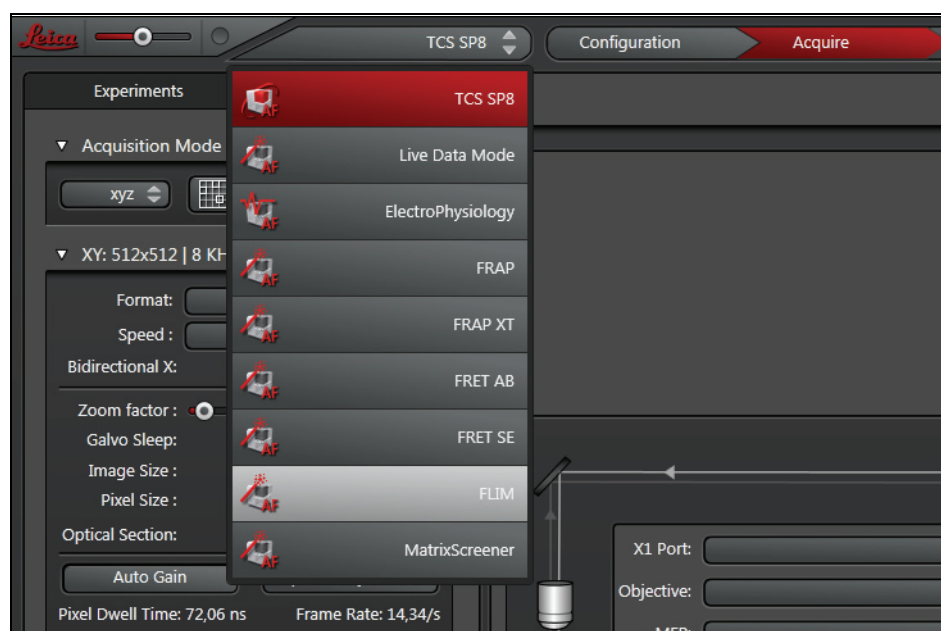

Figure 110: Selecting FLIM Wizard
1. Start the FLIM Wizard in LAS AF. To do so, open the operating mode selector and select **FLIM** (Figure 110).